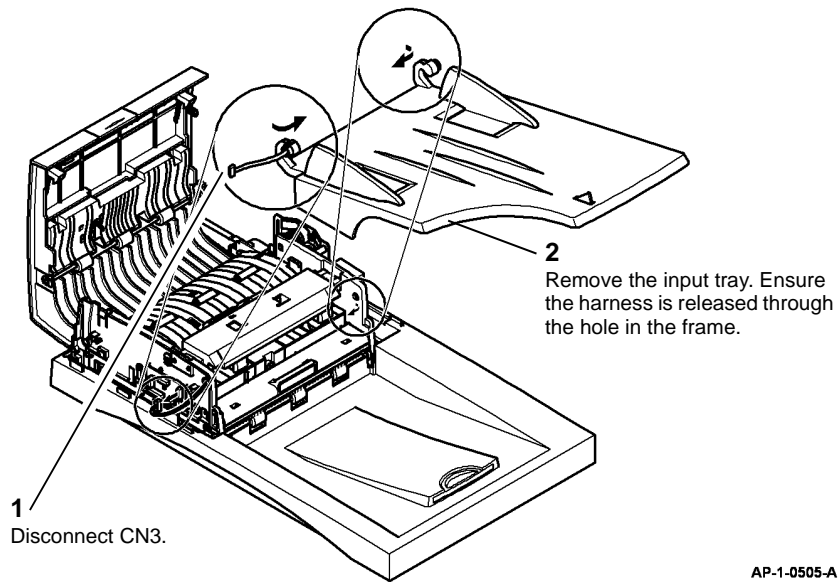

Figure 6 Input tray removal
7. Remove the input tray, Figure 6.